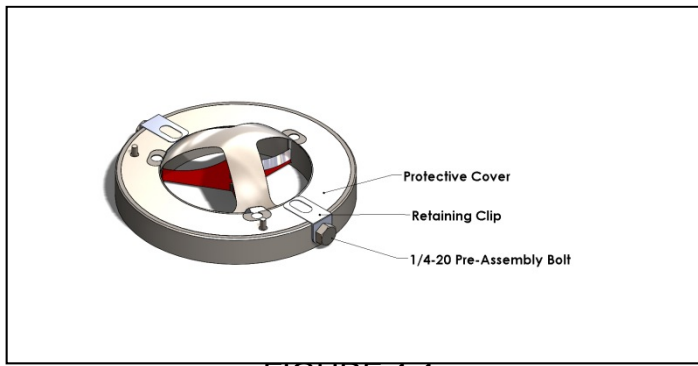
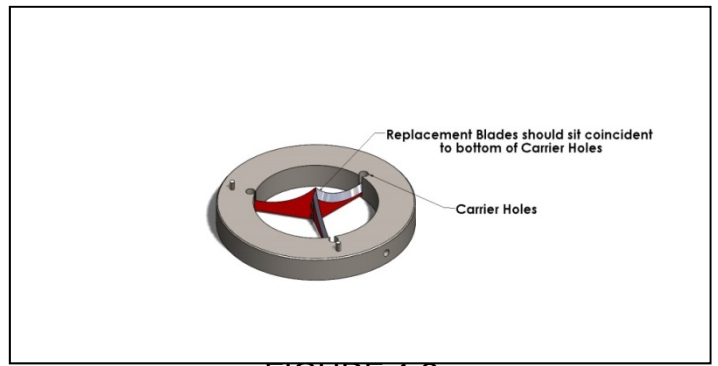

FIGURE 1.1
FIGURE 1.2
- 2) Remove protective cover from packaging and place over existing blades. Install the provided retaining clips and ¼-20 assembly screws as shown in Figure 1.1. The protective cover and retaining clips are included to provide protection to the installer and blades during assembly. The cover and screws should be discarded after the installation process.
- 3) Using a small hammer tap gently, from the backside on the flat edges of all three (3) blades as well as in the center. Take care not to strike any component of the holder other than the blade.
- 4) Once the blade and three (3) retaining plugs have come free of their bore, **carefully** remove the protective cover and blade.
- 5) Remove replacement blade from package and place them in the blade carrier holes. Align as shown in FIGURE 1.2.